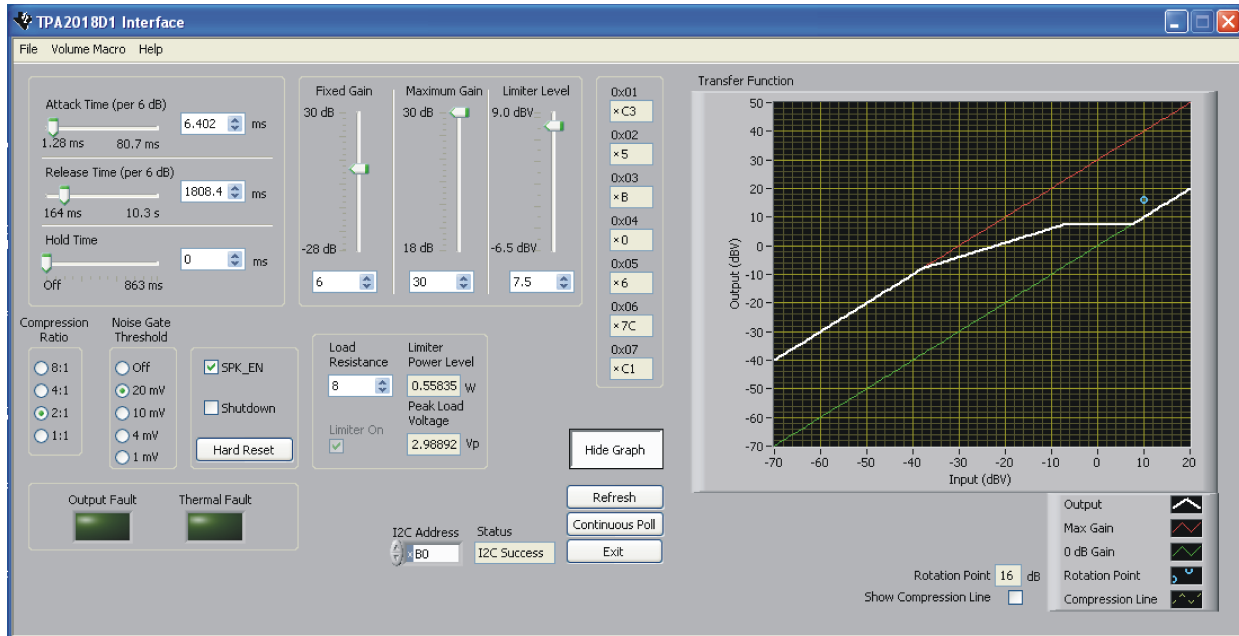

Figure 4. Software Interface
2. The TPA2018D1 software interface is as shown in Figure 4.